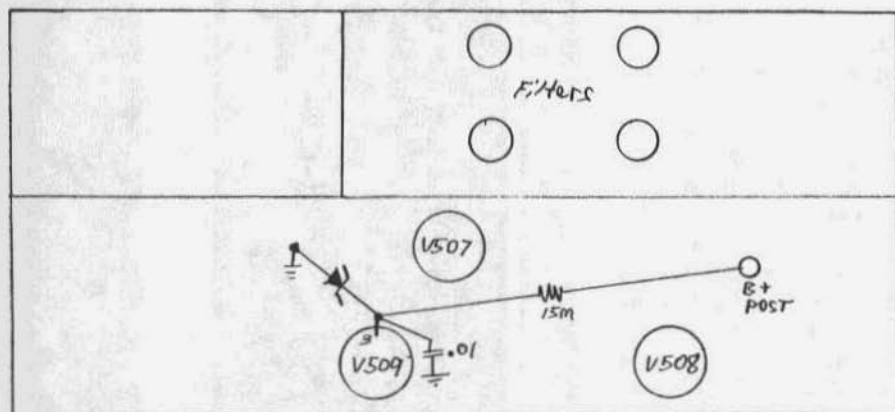

Figure 3. Bottom of IF chassis showing modification details.
All I did to fix the problem was to redesign the delayed AGC circuit for zener diode bias in the cathode of the AGC detector. See Figure 3. Since there is very little zener bias current, a large value resistor connected directly to the B+ line and a cathode bypass capacitor is all that is necessary. The 1N4738 is an 8.2 volt zener. With my particular receiver, this amount of bias at the detector cathode delays AGC until 1 microvolt (μV), or -107 dBm, input is reached. AGC idles at -.8 volt at the RF amplifier signal grid with no signal, which is about right for a remote-cutoff pentode like the 6DC6 or 6GM6. AGC rise is delayed until 1.1 μV is reached,
- 5) Install the zener diode, the 15 Meg resistor, and the .01 uF bypass at the AGC detector cathode, pin 3 of V509A per the diagram in figure 3.